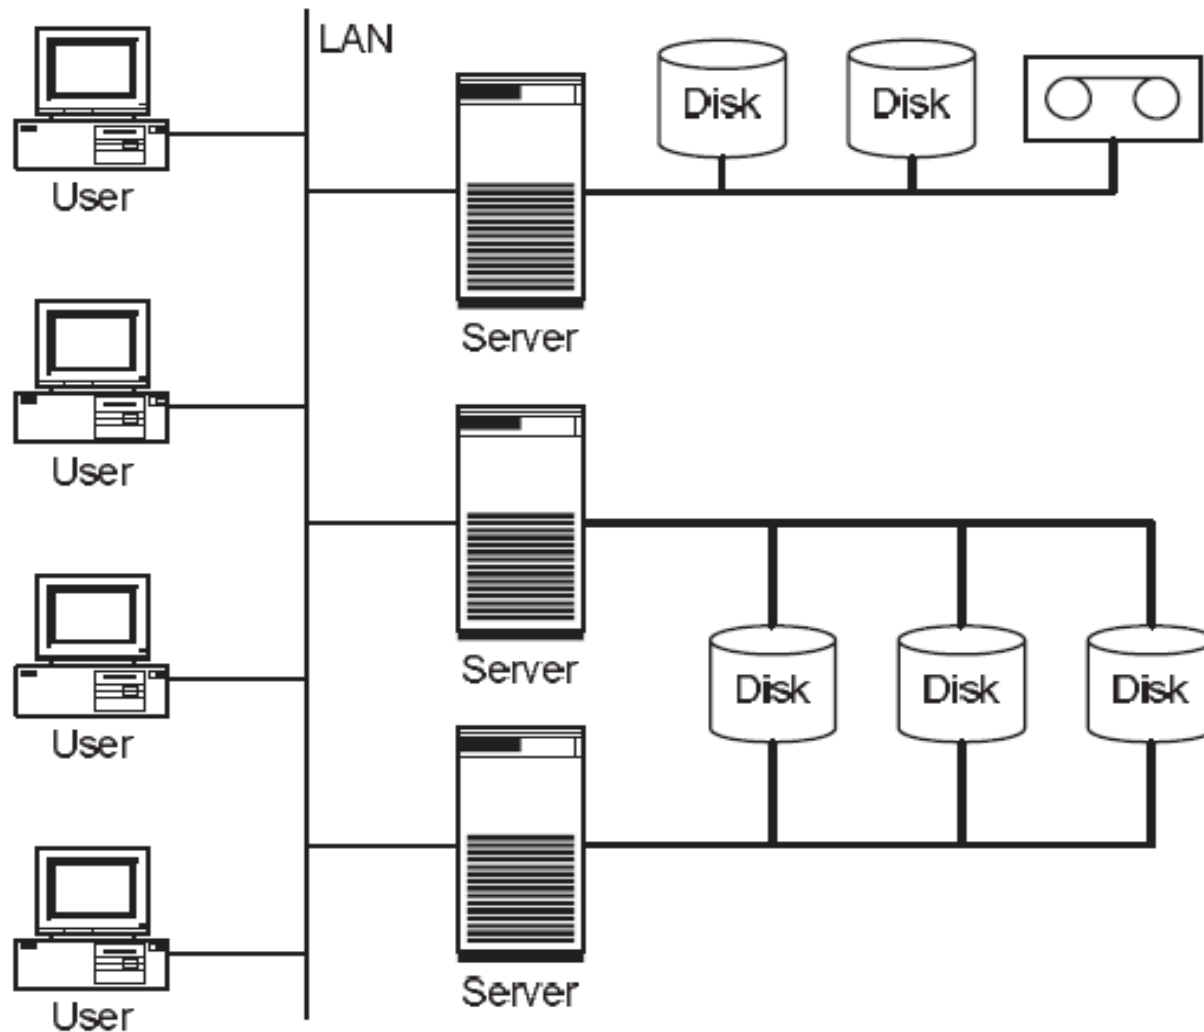

Figure 1.1 In a server-centric IT architecture storage devices exist only in relation to servers
- In conventional IT architectures, storage devices are normally only connected to a single server (Figure 1.1). To increase **fault-tolerance**, storage devices are sometimes connected to *two servers*, the **storage device exists only in relation to the server to which it is connected**. Other servers cannot directly access the data; they always have to go through the server that is connected to the storage device.